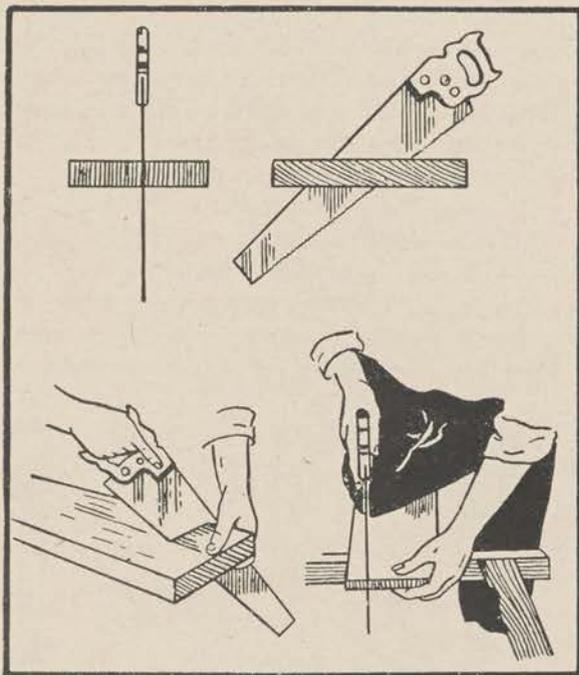

Figure 70.
*b.* Always mark on the wood the line to be sawed. Try to cut along the outside edge of this line rather than on the line itself. This is the only way to insure accurate work. The lumber must be held firmly on saw horses, boxes, or a bench. The saw is held at about a 45° angle to the work and the first cut is made by drawing it towards you several times. As the sawing approaches its end, hold the piece that is being cut off so that it will not split away. The most difficult part of sawing for the beginner is learning to hold the blade vertical so that the edge of the cut is square. This is largely a matter of feeling and experience, though sighting along the blade as you work will help (fig. 70).